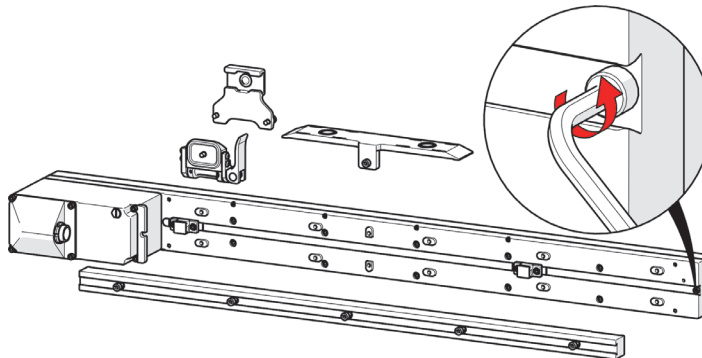

Figure 2-48 Remove screw
6. Using a 2.5 mm hex tool, remove the socket head cap screw located at the end of the raster arm in the cable clip groove (see Figure 2-48 on page 80).